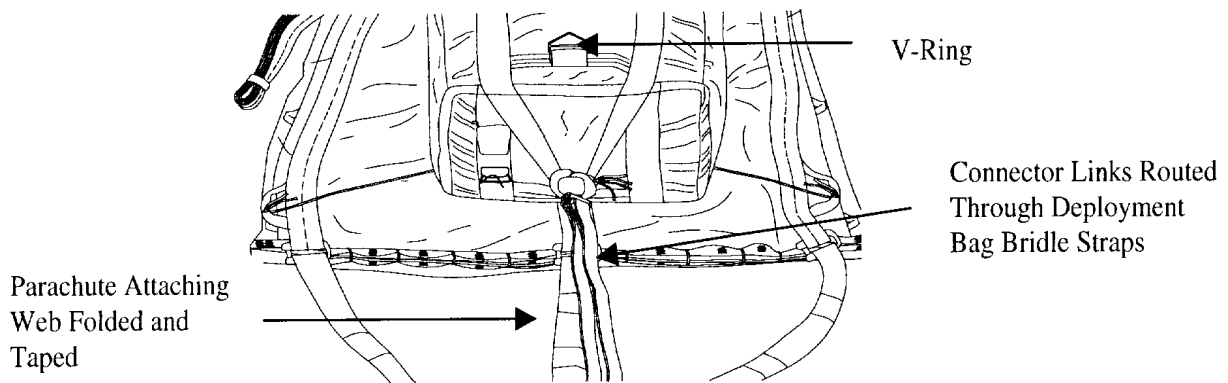

Figure 1. Breakcord and Bridle Attached to the Parachute.
- d. Pass the running ends of each tie through carrying handle of top Extraction Line Panel. Secure each tie to the bottom-carrying handle with alternating half hitches (figure 1).
- c. Fold the remaining bridle (parachute) attaching webs and tape it to center extraction bridle (figure 1).